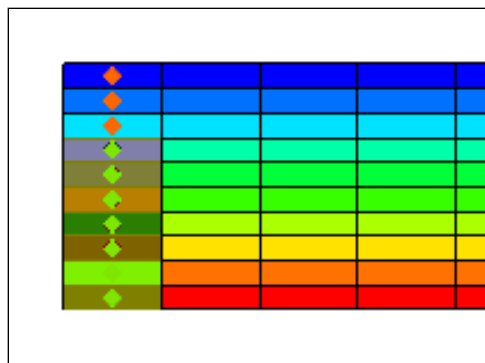

Figure 2 Bottom seven cells in the leftmost column selected
1. Using the **Select Cells**  tool, while holding down the *Shift* key, select the bottom seven cells in the leftmost column (Figure 2).